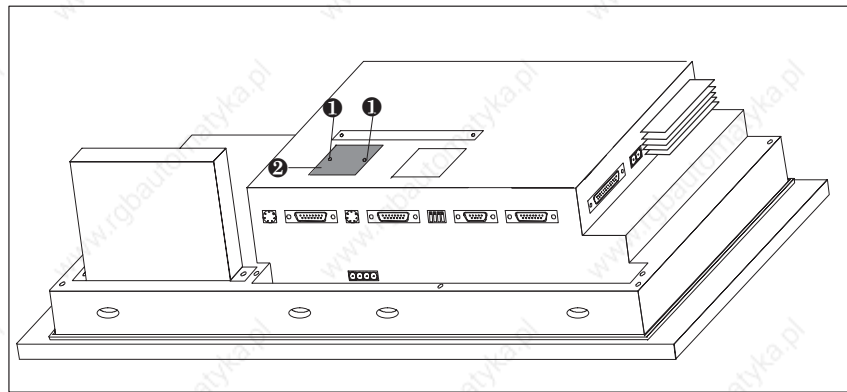

Figure 18-4 Removing the cover (example OP37)
2. Release the two pop rivets ❶ and then remove the cover ❷ indicated in Figure 18-4 from the rear panel of the OP.